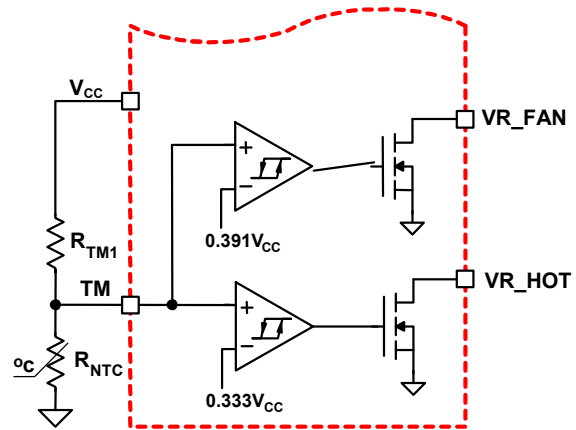
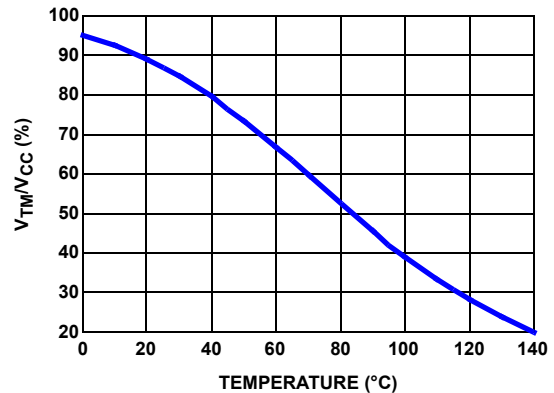

FIGURE 16. BLOCK DIAGRAM OF THERMAL MONITORING FUNCTION
FIGURE 17. THE RATIO OF TM VOLTAGE TO NTC TEMPERATURE WITH RECOMMENDED PARTS
The diagram of thermal monitoring function block is shown in Figure 16. One NTC resistor should be placed close to the power stage of the voltage regulator to sense the operational temperature, and one pull-up resistor is needed to form the voltage divider for the TM pin. As the temperature of the power stage increases, the resistance of the NTC will reduce, resulting in the reduced voltage at the TM pin. Figure 17 shows the TM voltage over the temperature for a typical design with a recommended $6.8\text{k}\Omega$ NTC (P/N: NTH50805N02N6801 from Vishay) and $1\text{k}\Omega$ resistor RTM1. We recommend using those resistors for the accurate temperature compensation.
Based on V_{CC} voltage, ISL6334, ISL6334A converts the TM pin voltage to a 6-bit TM digital signal for temperature compensation. With the nonlinear A/D converter of ISL6334, ISL6334A, the TM digital signal is linearly proportional to the NTC temperature. For accurate temperature compensation, the ratio of the TM voltage to the NTC temperature of the practical design should be similar to that in Figure 17 on page 23.
1. Properly choose the voltage divider for the TM pin to match the TM voltage vs temperature curve with the recommended curve in Figure 17 on page 23.